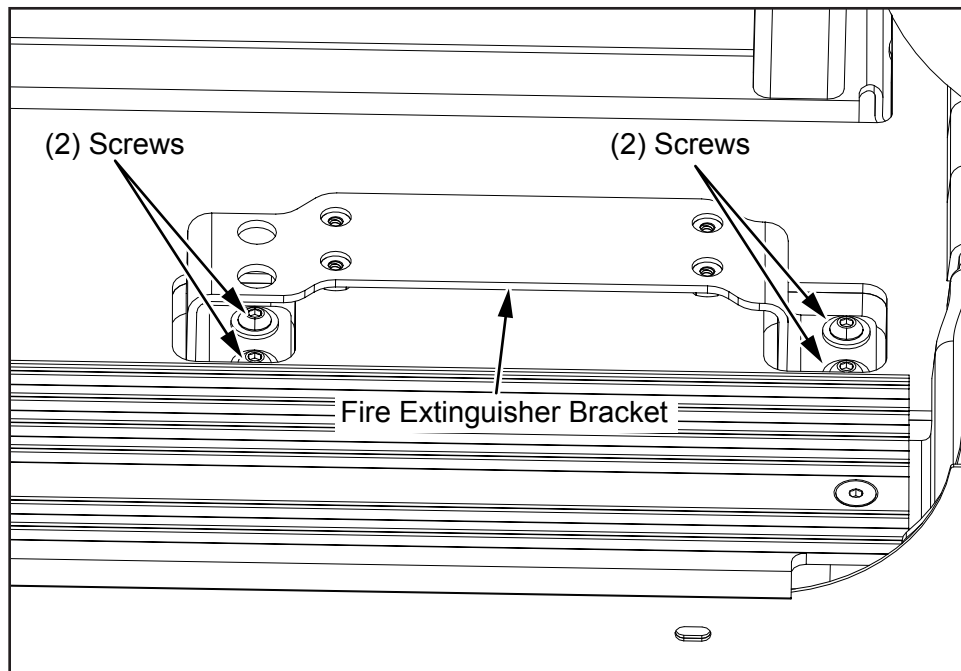

Figure 24
25. Using (4) 1/4 screws, reinstall the fire extinguisher bracket and tighten to 6.3 Lbs-Ft of torque (see Figure 24).